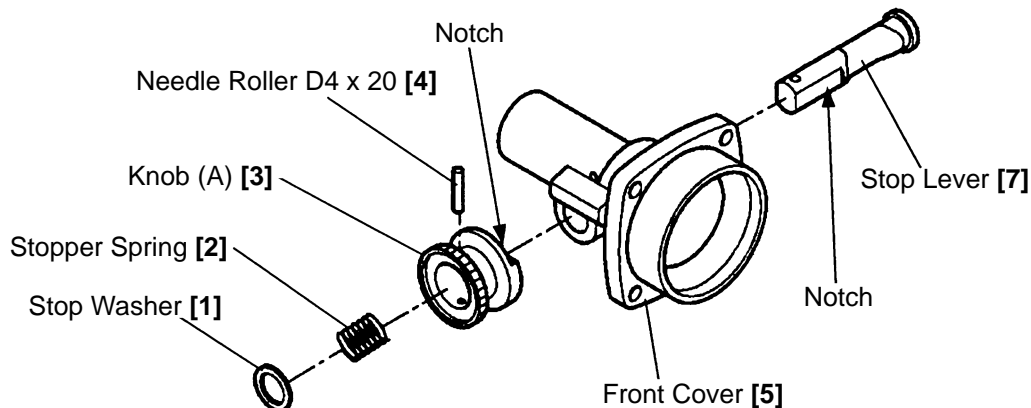

Fig. 18
(5) Reassembly of the tool holder
As illustrated in Fig. 18, ensure that the notched portions of the Stop Lever [7] and Knob (A) [3] are properly aligned during reassembly. If not properly aligned and assembled, the tool (drill bit, bull point, etc.) cannot be properly inserted into the retainer.